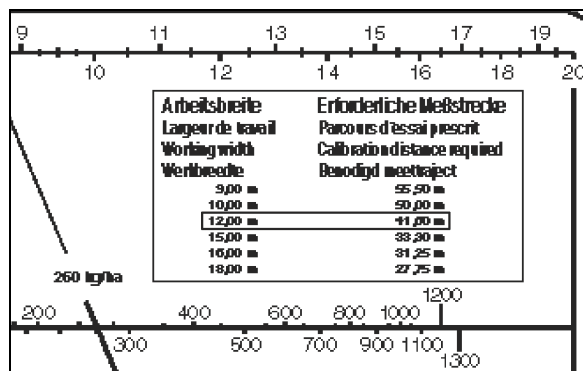

Fig. 65
3. You can obtain the required calibration distance (41.6 m) for the desired working width (12 m) from the chart (Fig. 65) of the nomogram or the rear side of the rear side of the calculator disc rule.